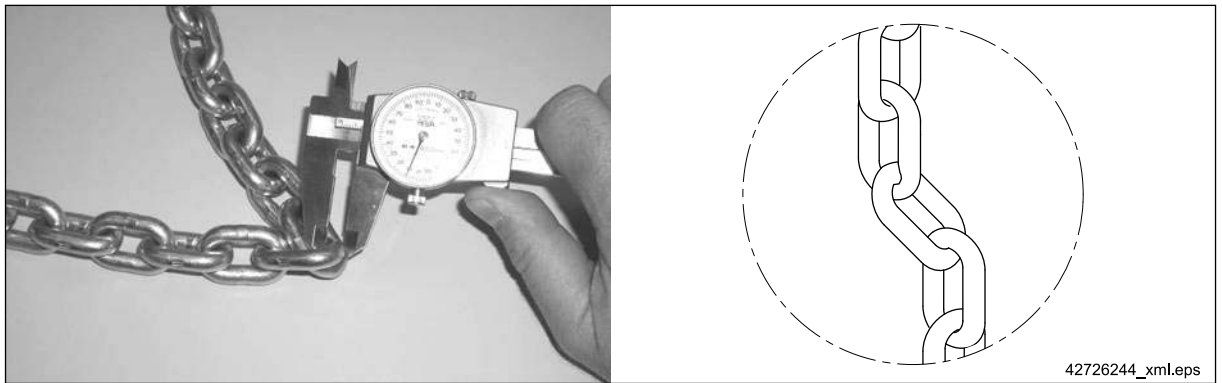

Fig. 44
- wear of a single chain link  $\Rightarrow$  Fig. 44, Page 75;